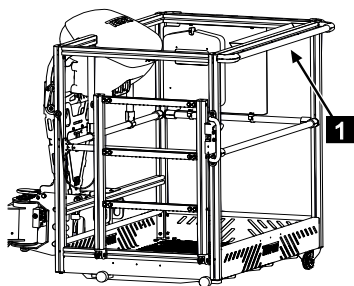

Fig. 152
2. 2nd person: Support the working basket from below (Fig.152/1).